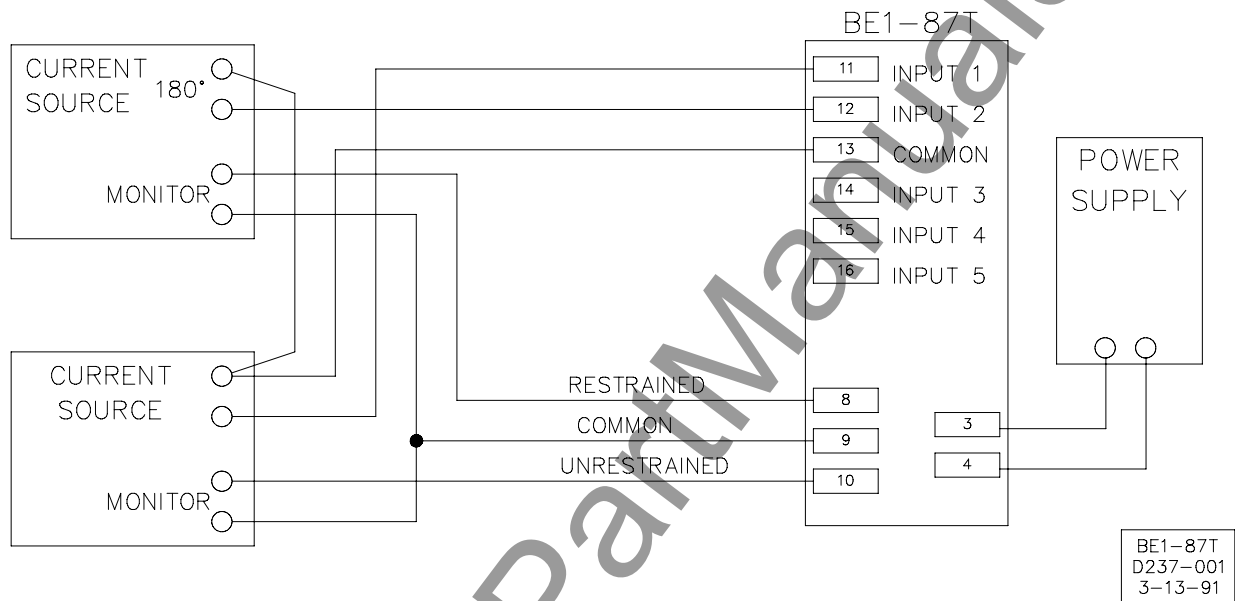

Figure 5-2. Test Setup: Single-Phase
- Step 1.** Connect the relay as appropriate (refer to Figures 5-2 through 5-5) beginning with input terminals 11 and 13 for the initial tests. Do not apply power at this time.
Step 9. Three-Phase Units Only: Repeat Steps 6, 7 and 8 for phases B and C. (Refer to Figures 5-2 through 5-5, as appropriate, for the terminal numbers of the phase B and C inputs.)
Step 2. Connect the input being tested to the current source, as shown in the appropriate **TEST SETUP**, Figures 5-2 through 5-5.
- Step 1.** Set the **INPUT 1** (tap) switches to the 2.0 A position. Connect the relay as appropriate (refer to Figures 5-2 through 5-5) using terminals 11 & 13 (Input 1 for both single-phase and three-phase units).
- Step 1.** Set the **INPUT 1** (tap) switches to the 2.0 A position. Connect the relay as appropriate (refer to Figures 5-2 through 5-5) using terminals 11 & 13 (Input 1 for both single-phase and three-phase).
- Step 1.** Connect the relay as appropriate (refer to Figures 5-2 through 5-5).